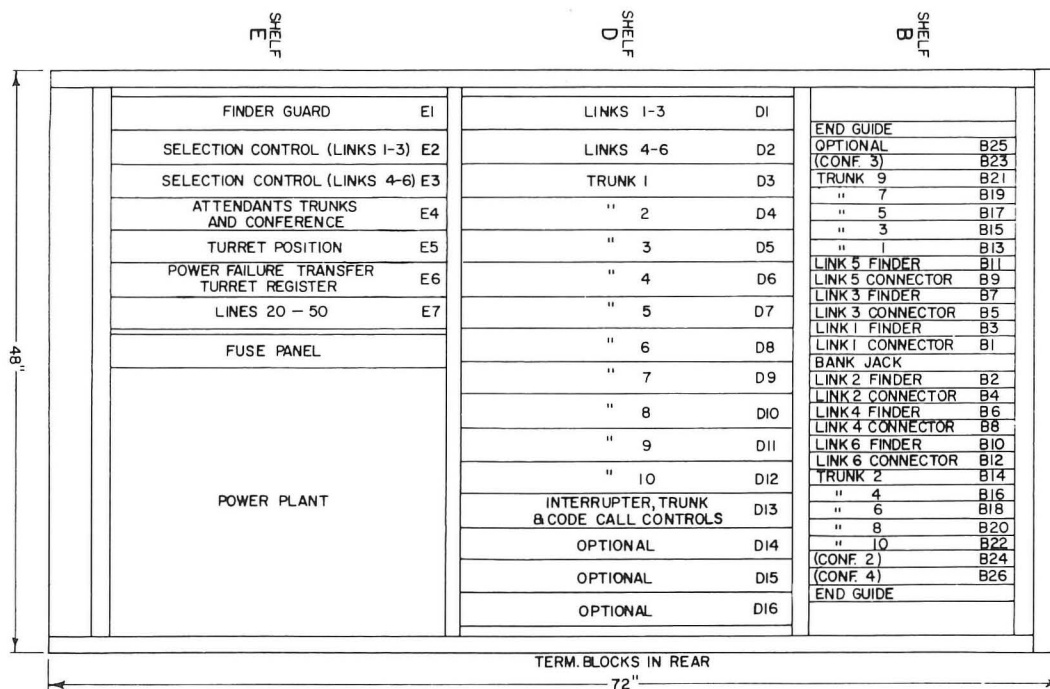

Figure 5. Mounting arrangements for Type 40 P-A-B-X.
- a. The three equipment shelves are designated B, D, and E. Shelf B contains the Leich crosspoint switch shell shown in figure 5, which houses 6 finder switches, 6 connector switches, and ten trunk switches. In all,
- b. Shelf D has available 16 jack-in relay bar positions designated D1 through D16 (figure 5). Positions D1 and D2 are occupied by the two link circuit relay bars, each link relay bar contains relay equipment for three link circuits. Positions D3 through D12 contain the ten city trunk relay bars. If less than ten city trunks are provided, the remaining positions can be used to house optional equipment. Position D13 is occupied by the interrupter and the trunk and code call control circuit. Positions D14, D15 and D16 are optional positions.
- c. Shelf E has 5 jack-in relay bar positions designated E1 through E5. Positions E6 and E7 house the line equipment and power failure transfer circuit; these are not jack-in relay bar positions (figure 5). Shelf E also contains the fuse panel and the power supply. Position E1 is occupied by the finder guard circuit. Position E2 and E3 are occupied by the selection con-
The three factors in determining the over-all equipment capacity of the Type 40 P-A-B-X are total bank outlets, switch positions, and relay bar positions provided. The Type 40 P-A-B-X provides 60 bank outlets, 26 switch positions and 21 relay bar positions. The Type 40 P-A-B-X shown in figure 5 contains all the standard equipment including the equipment associated with attendant's turret and provides 39 local lines, 1 attendant's P-A-X line, 10 city trunks and 2 attendant's information trunks. Table A lists the capacity of the Type 40 P-A-B-X that has been utilized.